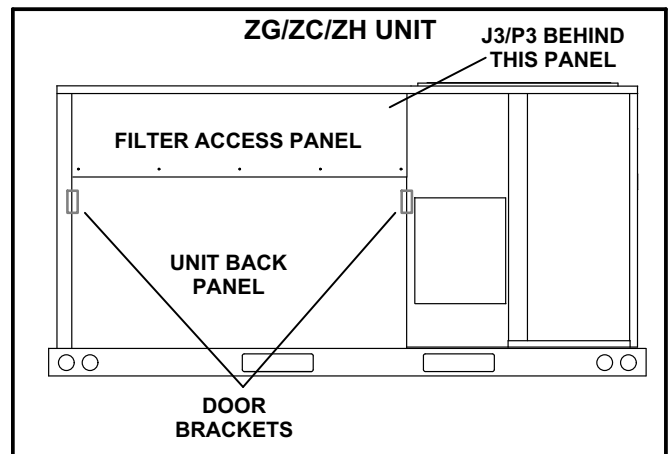

FIGURE 2
- 2- Remove and discard unit back panel. Retain screws and two door brackets which secure panel. See figure 2.